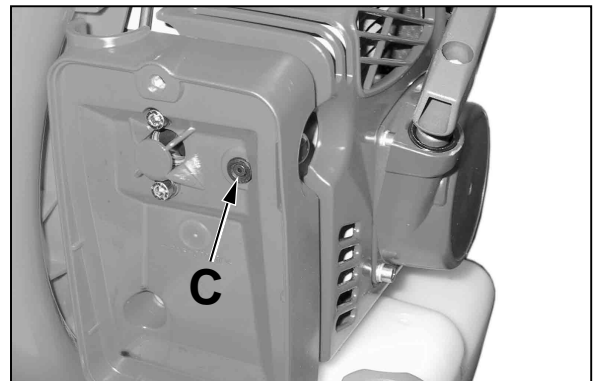

fig.3
- The carburettor (“C” fig.3) is fitted with a **self-adjusting fuel regulation device (compensator)** that prevents the fuel/air mixture from becoming richer as the air filter gradually collects dirt. The quantity of air passing through the filter is measured, and the jet regulated correspondingly to supply the correct amount of fuel. As a result, the fuel/air ratio is maintained constant and no manual carburettor adjustment is required.